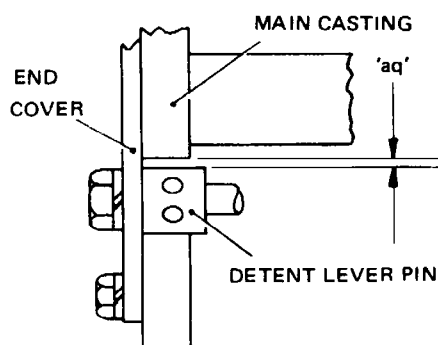

Fig. 4.47 CLUTCH SPINDLE
- 50.1 Check that the clearance between the detent lever pin and the main casting (dimension 'aq' of Fig. 4.47) is 0.002–0.006 inch.